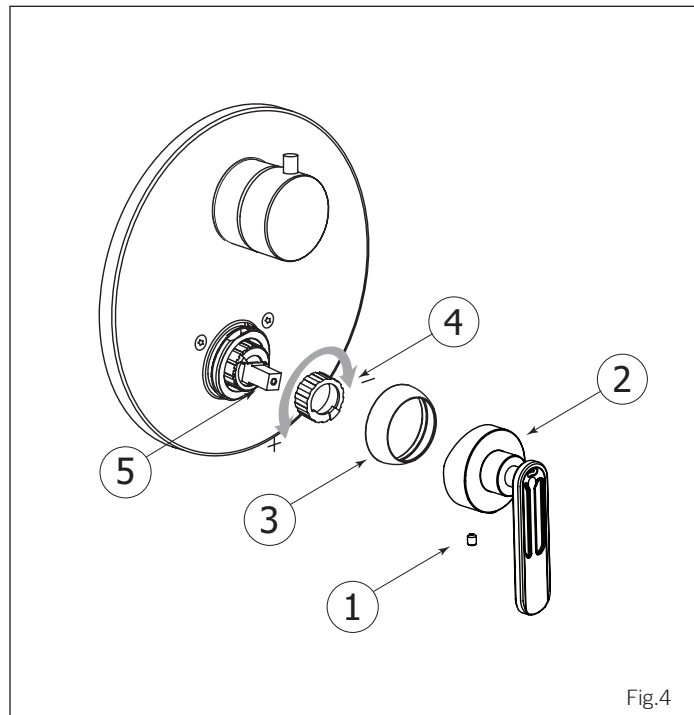

Fig.4
The highest temperature setting must be set at 120°F (49°C) or less. It can be adjusted following these steps: Remove the set screw (1), the handle (2) and the dome cap (3) (Fig.4). Pull out the temperature limiting ring (4) from the cartridge (5). Gradually rotate it to the left to lower the highest temperature setting or towards the right to increase it.
Retirer la vis de retenue (1), la poignée (2) ainsi que le capuchon en dôme (3) (Fig.4). Ensuite, retirer la bague de limite de température (4) de la cartouche (5). Tourner la bague graduellement vers la gauche pour diminuer la température maximale et vers la droite pour l'augmenter.